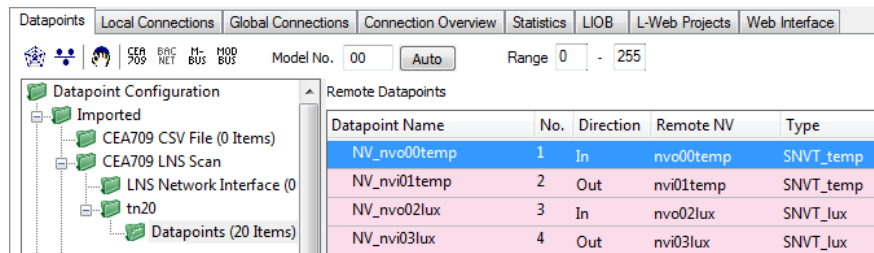

Figure 43: Result of an NV scan in LNS.
7. After the scan has completed, the folder **LNS Database Scan** is populated with the found NVs as shown in Figure 43.
11. The generated BACnet objects appear in the **Datapoints** folder under the **BACnet Port** folder as shown in Figure 43. These objects are also automatically connected to the respective NVs.